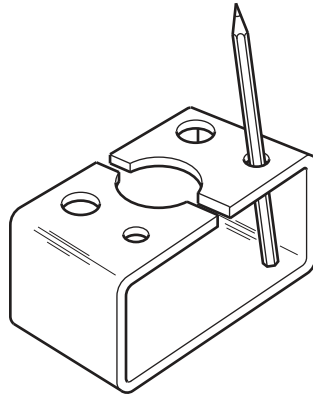

Fig. 5
- 7 Fig. 5 shows a basic design for a desk tidy made in a school workshop. The desk tidy is made from 4 mm thick acrylic.